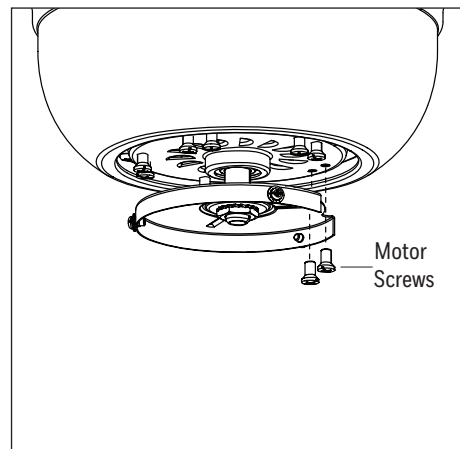

Figure 2.8
8. Remove the ten motor screws from the underside of the motor and set aside for later (Figure 2.8).